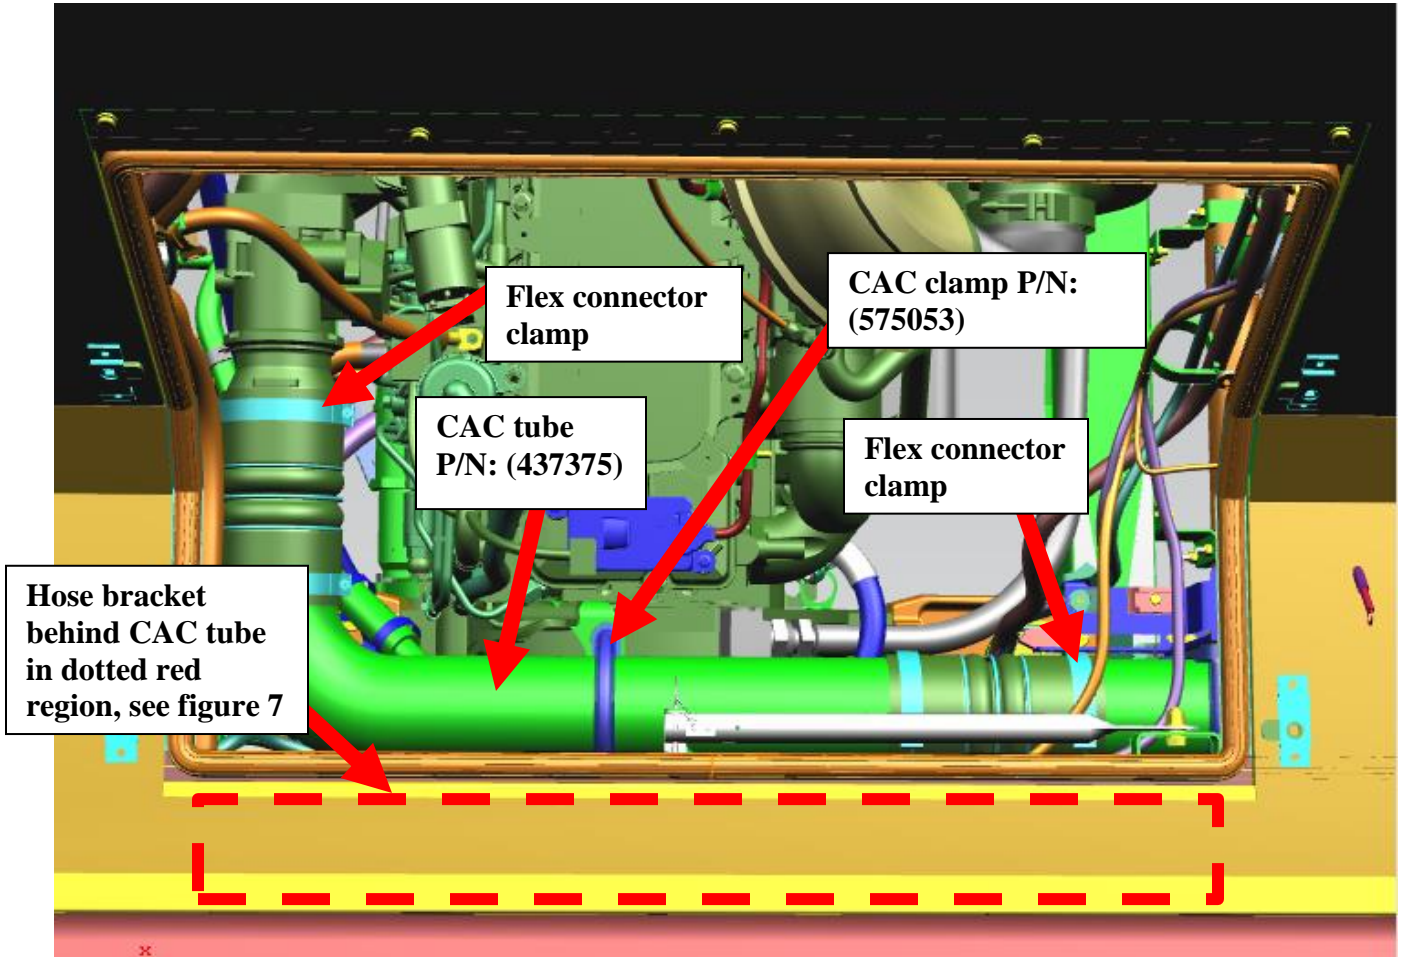

Figure 6: Birds eye view of rear interior access entry point
- b) Remove CAC tube P/N: (437375) at flex connector clamp points shown in figure 6.